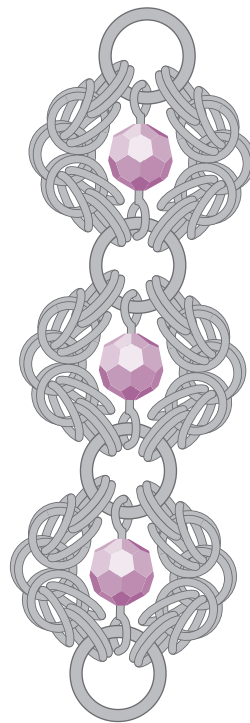

FIG. 7
8. To finish the chain, thread 1 large open jump ring through the ends of the last Byzantine segments and bead component. Close the jump ring (FIG. 7).